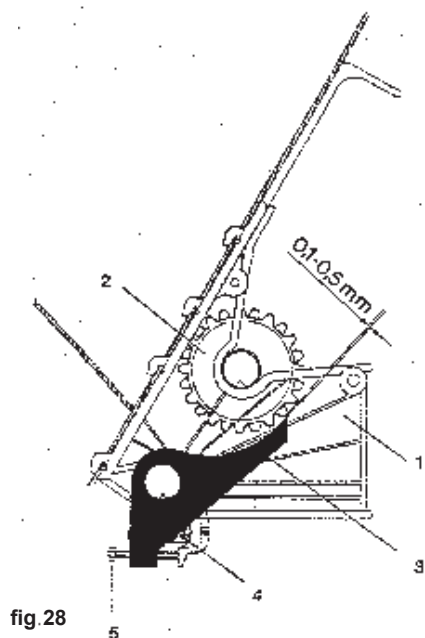

fig 28
The required seed rate is controlled by both the metering wheels and the bottom flaps. The seed flows from the seed box into the metering wheel housings. Inside the metering wheel housing (Fig 28/1) the seed is caught between the metering wheel (Fig 28/2) and the bottom flap (Fig 28/3). The metered amount of seed is transported by the metering wheel to the edge of the bottom flap where it drops off into the seed guide tube which leads to the coulter. Varying grain sizes require the matching of the flap clearance to the different grain sizes. This matching is done by raising or lowering the bottom flaps by using the flap adjusting lever on the LH end of the seed box. If larger foreign particles, e.g. stones get between the metering wheel and the bottom flap, the bottom flap can give way downwards. A strong return spring (Fig 28/4) brings the bottom flap immediately back into the working position.
**By turning the metering wheel shaft by hand check the flaps are all set to a gap of 0.1 to 0.5mm (refer Fig 28).**